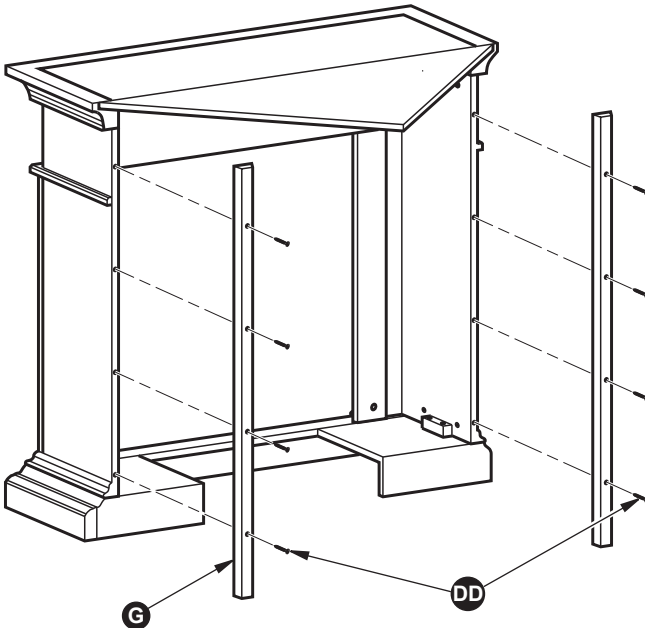

Figure 38
11. Attach the left and right Backboard (G) trim pieces to the back of the fireplace with 8) ST4 Screw 1 $\frac{3}{16}$ " (DD) as shown in Figure 38.